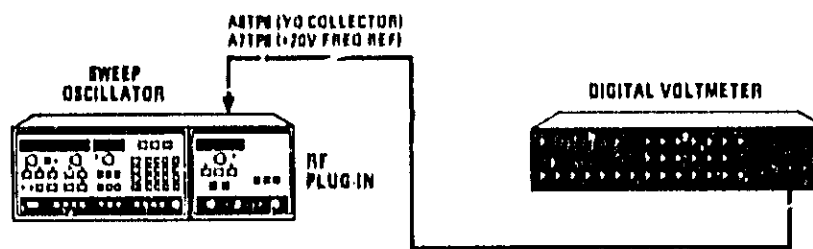

Figure 5-6. YO and YTM DAC Calibration Test Setup
1. Connect the equipment as shown in Figure 5-6 with the DVM connected to A6TP9 (VTUNE) and the reference probe connected to A6TP10 (VTUNE RET). Refer to Figure 5-7 for test point and adjustment locations. Allow the RF Plug-in to warm up for 1 hour.